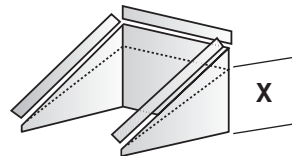

FIGURE 4
- 5d. Measure dimension "X" as shown on the assembly diagram below and transfer this measurement to the in-fill panel as shown on figure 4.